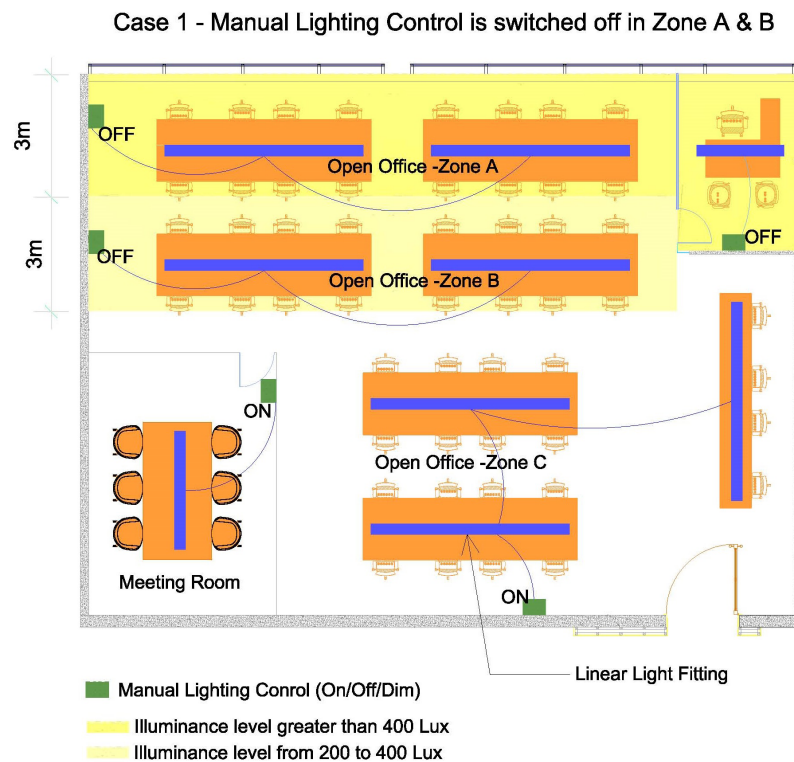

Fig. 502.06.(1): Lux Levels in Zone A and Zone B (Daylighting Only)
In an office (as shown fig. 502.06(1)) when light fixtures are turned off, the areas near the side window (Zone A) may have a daylighting level of over 400 lux on the working plane (WP), whereas the adjacent space (Zone B) may have less than 400 lux. As the light levels reduce below 400 lux on WP for spaces away from window (Zone B), electrical lighting is switched on / dimmed to meet the required lux level as indicated in fig. 502.06(2). Lighting switches can be controlled manually or automatically. By having individual controls for lighting, effective energy utilisation can be achieved.